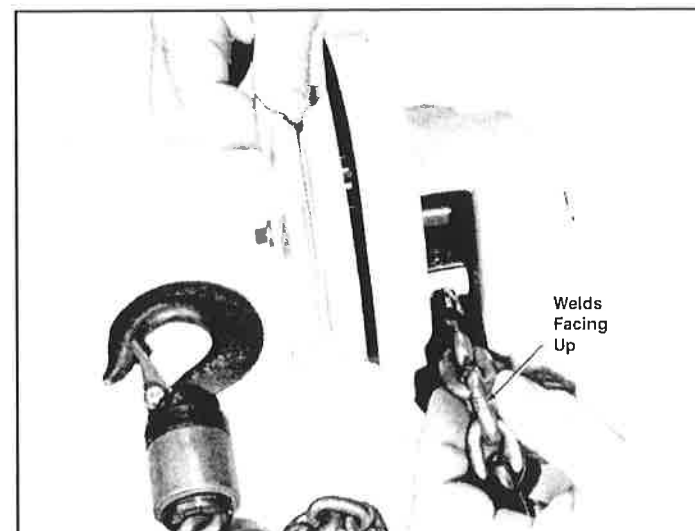

Figure 7-8. Installing Load Chain
a. Lay hoist on workbench. By rotating hand chain wheel, run load chain thru hoist. The first link into the hoist from the load side must be a horizontal link (into a horizontal pocket) so that the tail chain will be in the proper position for fastening to the hoist frame. Be sure the welded side of the chain links face up so they do not enter the vertical slots of the sprocket. Make sure chain is not twisted. See Figure 7-8.